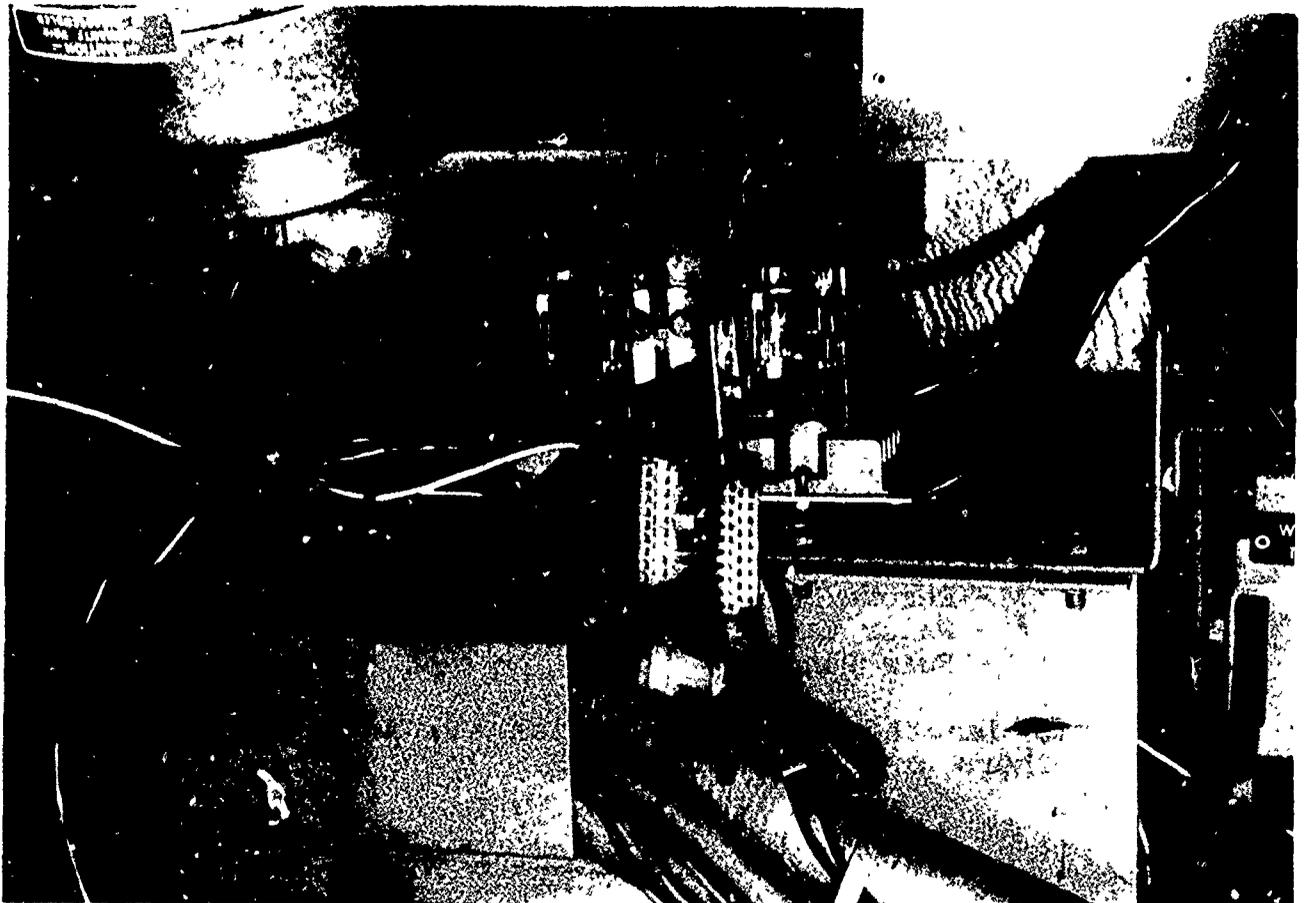

Figure 38. Engine Start/Start Relays.
18. Engine Start/Stop Relays (Figure 38)